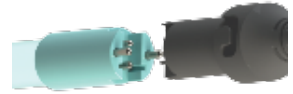

Figure 5. High Output UV Lamp Connection
Step 7: Connecting the lamp. Remove white plug collar and dispose. Plug the lamp connector into the lamp. Note the keying for proper alignment (Figure 5). Insert the lamp connector into the gland nut, gently push down then turn the connector approximately ¼ turn clockwise to lock the connector to the gland nut (Figure 6). The tabs inside the top nut must align with the channels on the lamp connector in order to achieve a proper lock. Do not pull upon connector before unlocking from the gland nut.